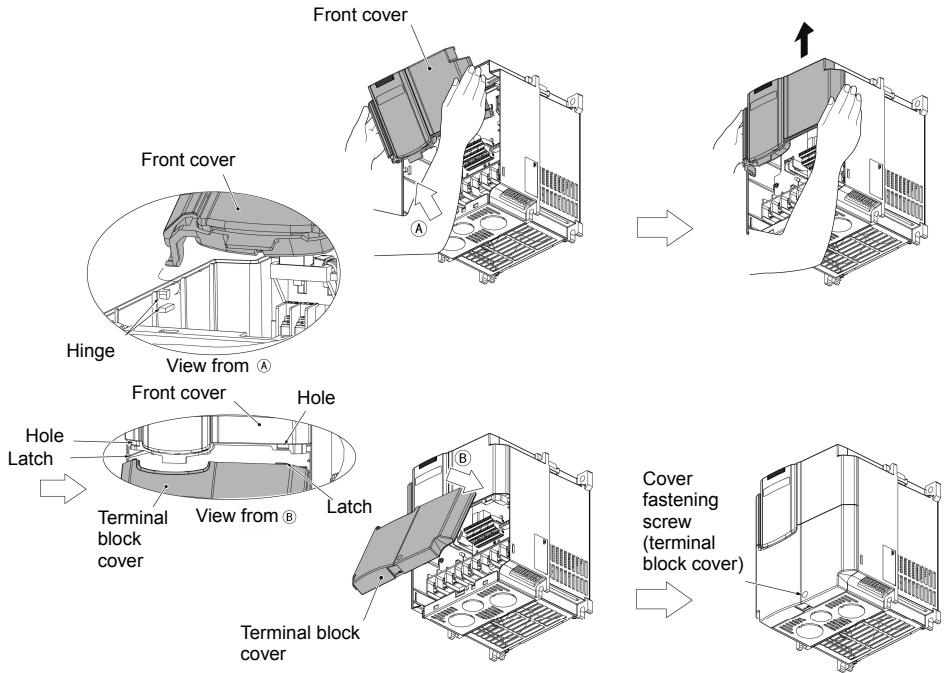

Figure 2.7 Mounting the Covers
(3) For inverters with a capacity of 30 kW or above
- ① To remove the front cover, loosen the four fastening screws, hold it with both hands, and slide it upward. (Refer to Figure 2.7.)
- ② Put the front cover back in reverse order of ①. Make sure to properly match the position of the screw holes on both of the front cover and inverter case.